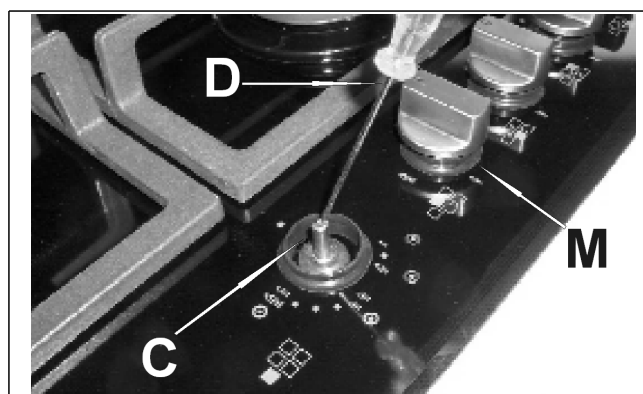

FIG. 13
- Remove knob “M” (fig. 13) of the tap, which is simply pressed on to its rod.
- Insert a small screwdriver “D” into hole “C” (fig. 13) and turn the throttle screw to the right or left until the burner flame has been adequately regulated to the “Reduced rate” position.